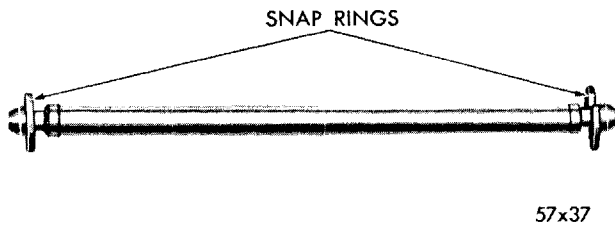

Fig. 39—Positioning Governor Valve Snap Ring
(9) Install the governor valve shaft snap ring. Make sure snap ring is positioned at outer end of groove. (Refer to Figure 39). If positioned at inner end of groove it may limit travel of governor valve. Make sure ring is properly locked to shaft.
(10) Check operation of governor weight assembly and valve by turning output shaft. Both should fall freely in body.